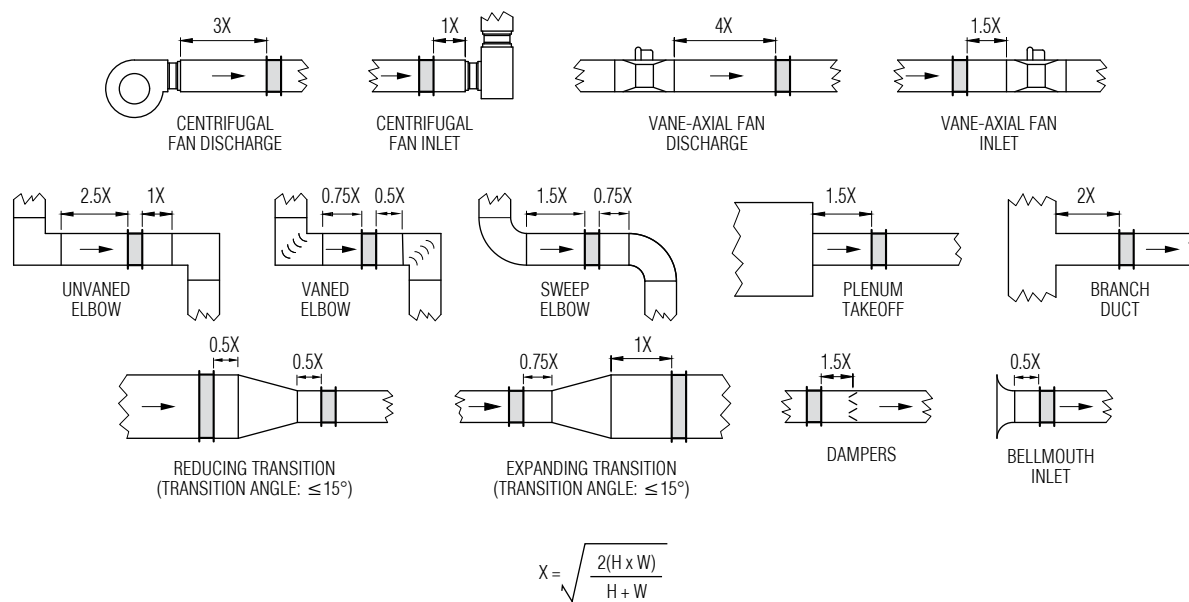
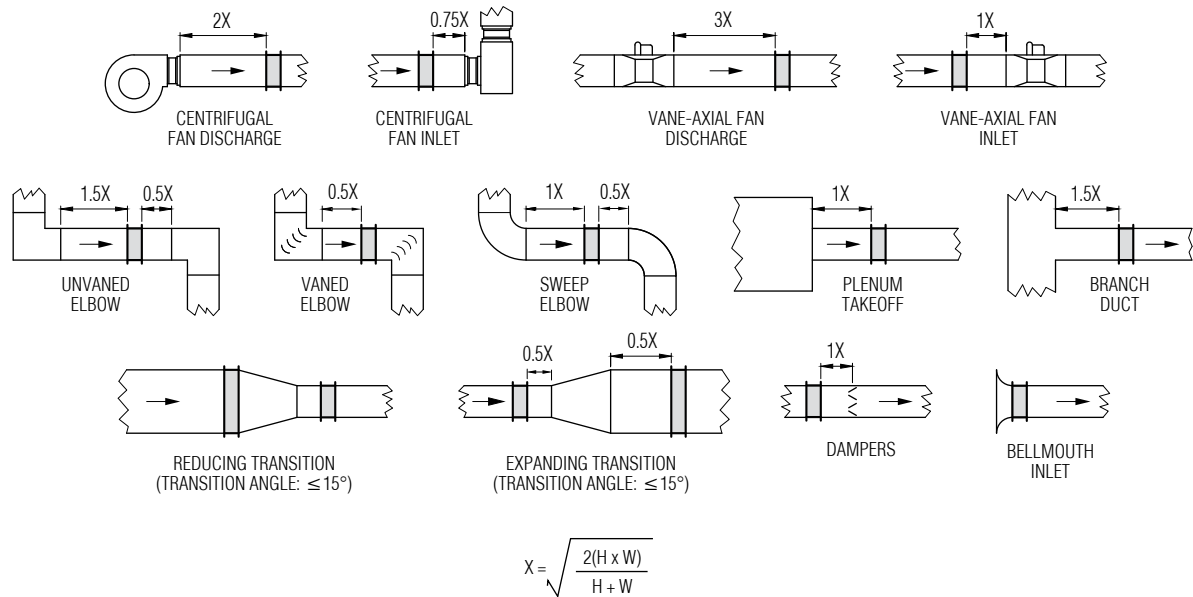

Figure 1: Minimum Installation Requirements
Figure 2: Minimum Installation Requirements with Honeycomb Attachment
- **Turbulent Airflow:** The aerodynamic design of the Air Measuring Damper probes aperture will permit accurate flow measurement in the presence of moderate air turbulence. The distances from air turbulence producing fittings, transitions, etc., shown in Figure 1 are required to assure accurate airflow measurement.
The following diagrams in Figure 1 show the minimum clearances required to install the Air Measuring Damper Unit. Contact Nailor Industries Applications Engineering Department if you cannot meet these requirements. Use of a honeycomb attachment allows for clearances in Figure 2 and/or specific lab tests may prove to use smaller clearances. 'X' represents the duct diameter dimension for circular ducts. To determine the equivalent duct diameter dimension for rectangular ducts, use the equation below.